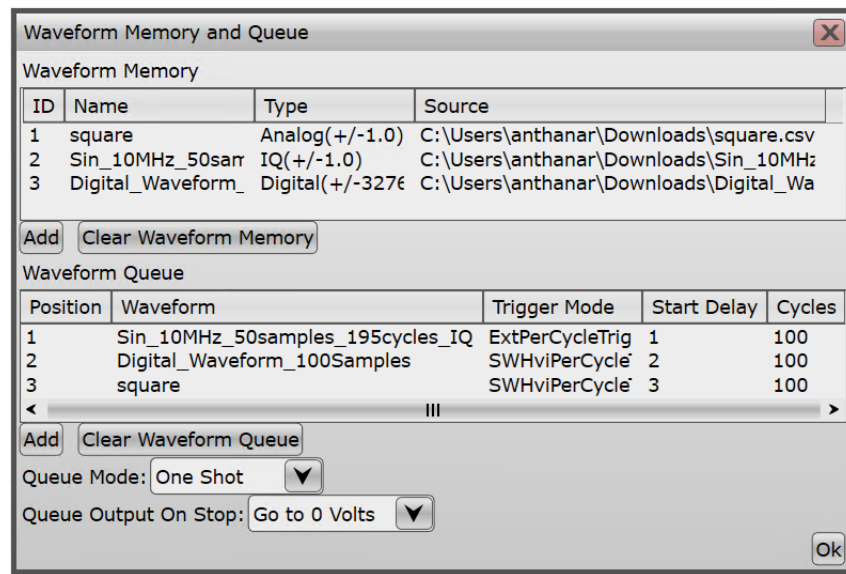

Figure 84 Waveform Memory and Queue dialog box after modifications
- 5 Repeat the previous step to queue more waveforms. After adding two or more waveform IDs, the **Waveform Memory and Queue** dialog box should appear similar to that shown in Figure 84.